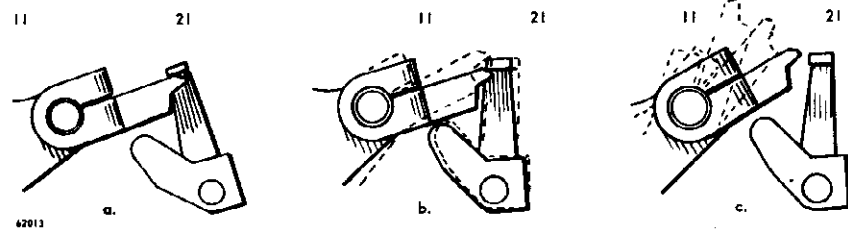

FIGURE 14.
B. MANUAL LOCKOUT ASSEMBLY (20) engages and retains the tone arm locator (12) in its outermost position while the control slide is set in the "MANUAL" position. There are three actions involved:—
1. When the tone arm is in the rest position, and the control slide is moved into MANUAL, the outer manual lockout (20) moves to hold the tone arm locator from moving inward.
2. The manual lockout (20) and the tone arm locator (12) must remain engaged, while the control slide is moved into any other position, until automatically released by the Drive Gear Cam.
C. 12" RESET SLIDE (13), 12" RESET LEVER (39), AND 12" RESET ROD (40) indexes the tone arm properly for a 10" or 12" record, depending upon the setting of the selector arm. This is accomplished by transmitting the motion (due to the reset rod contacting the smooth surface or the rib) on the selector arm to the 12" Reset Lever. (See Fig. 14